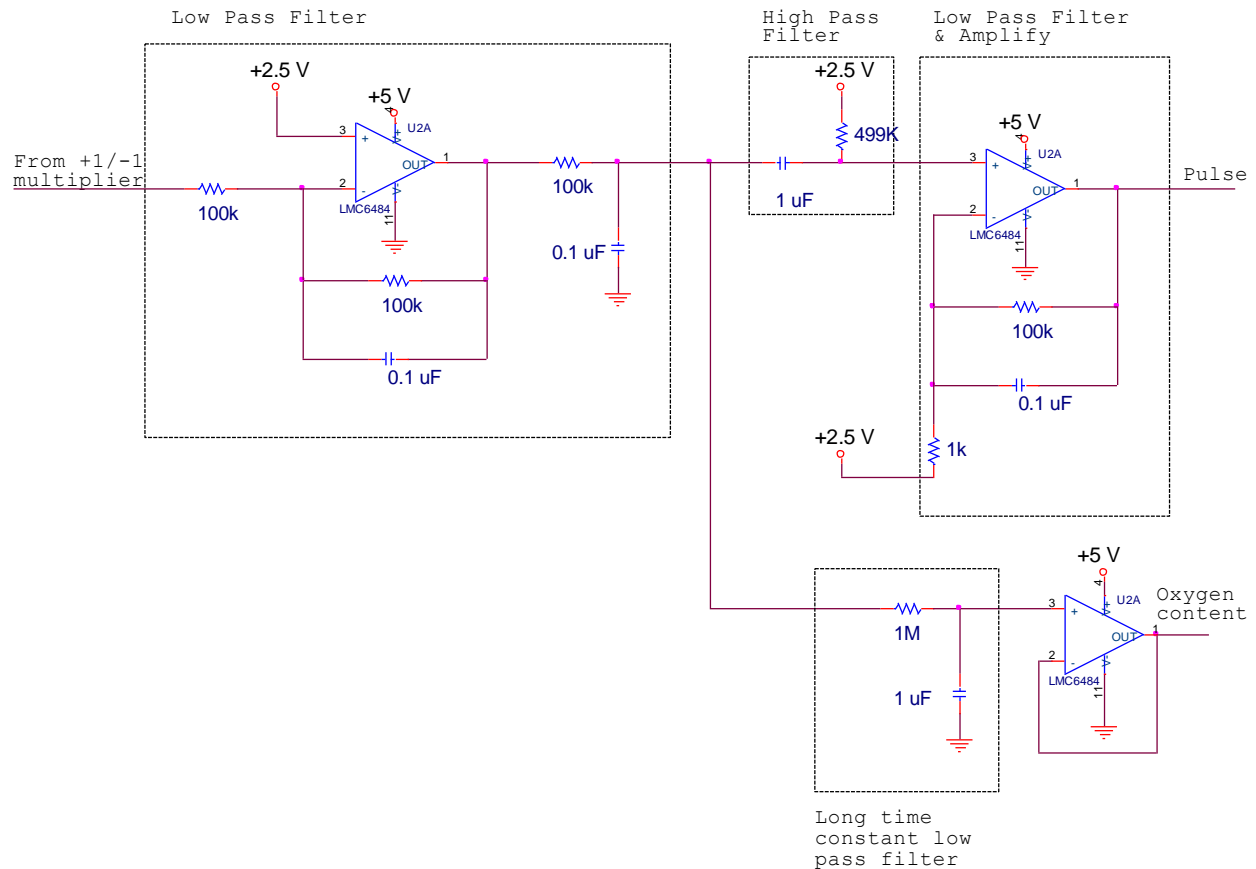

Figure 6: Filters to isolate the pulse and average oxygen content.
You will now need to build the circuit to do the averaging – i.e. a low pass filter. We will use two first order filters. We select the topology shown in Figure 6; we could have chosen a number of different filter designs to accomplish the same thing. We then split the first stage of low-pass filtered signal into two branches. The upper branch takes the signal through a high pass filter (to find the fluctuating part, your pulse) and then further low-pass filters and amplifies the signal. This output is the “patient’s” pulse. The lower branch further averages the signal on a long time scale to provide an output which varies with the oxygenation of the blood.
- A theoretical Bode Plot for the filter chain shown in Figure 6 which isolates the pulse. You don't need to test the filter experimentally this week.